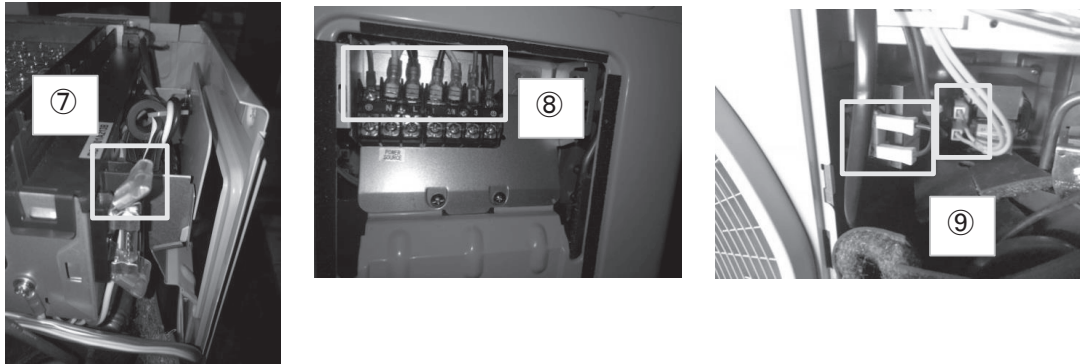

Fig.4 Cable of fuse, terminal block and reactor
- 9) Disconnect the cable of terminal block and fuse. (Fig.4 ⑦、⑧)
- 10) Disconnect the cables of reactor. (Fig.4 ⑨)